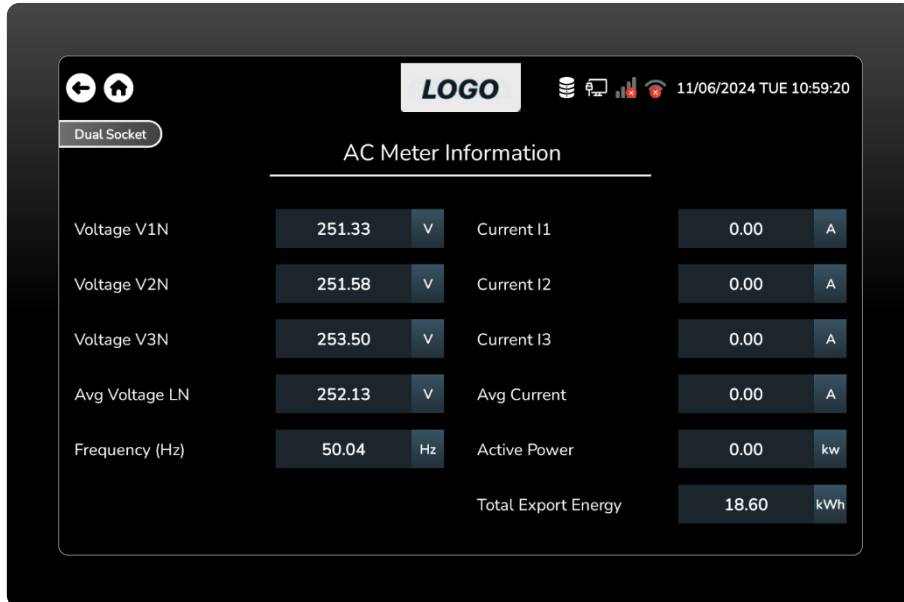

Figure 31 AC Meter Information Screen.
- This is the AC meter information screen. The user can view information such as three phase voltage and current, average voltage and current, frequency, active power, and total export energy. (Figure 31)